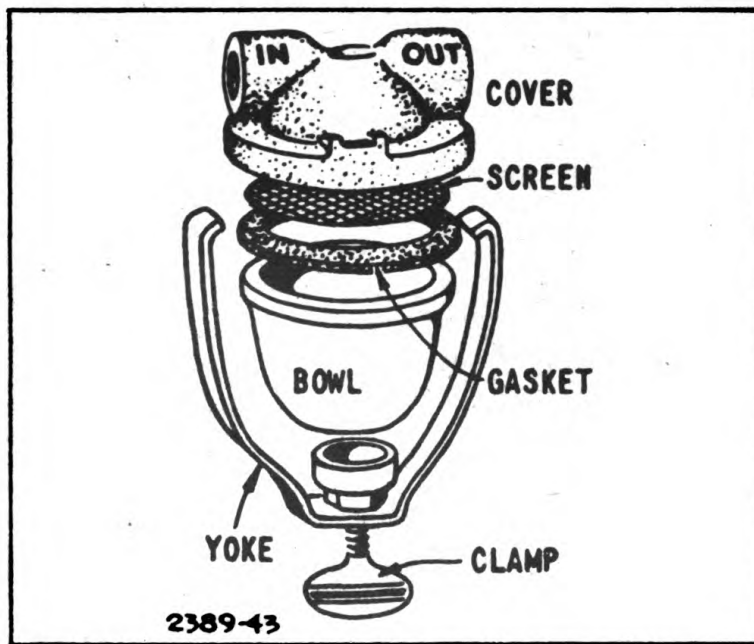

Figure 4.—Gasoline filter
- (1) Close the fuel shut-off valve on the fuel tank.
- (2) Remove the fuel line and clean by blowing through it.
- (3) Take the gasoline filter apart by loosening the thumb nut below the filter bowl and remove the bowl, gasket, and screen (fig. 4).